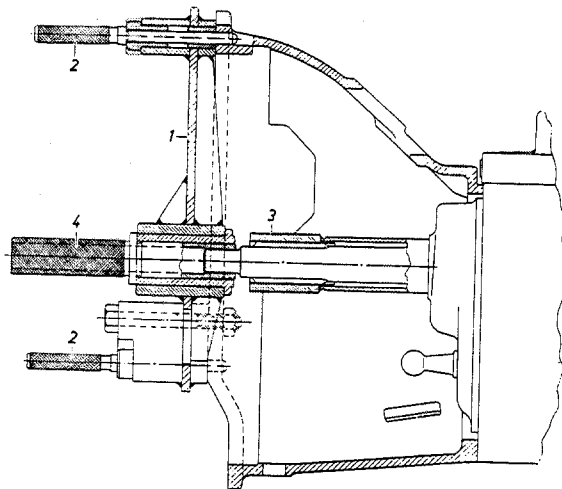

Fig. G 2/5
- To fix the driveshaft in center position, push sleeve (3) over driveshaft and insert its recessed end into bore of front cover of transmission.
- To center the fixing device push plug (4) over driveshaft journal (Fig. G 2/5).